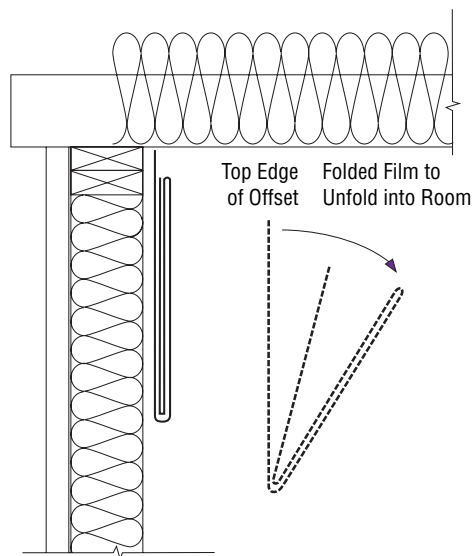

Figure 2: MemBrain™ sheeting orientation for wall installation method.
5. After stapling to the opposite corner, allow the folded sheet to unfold to the floor. (See Figure 2)